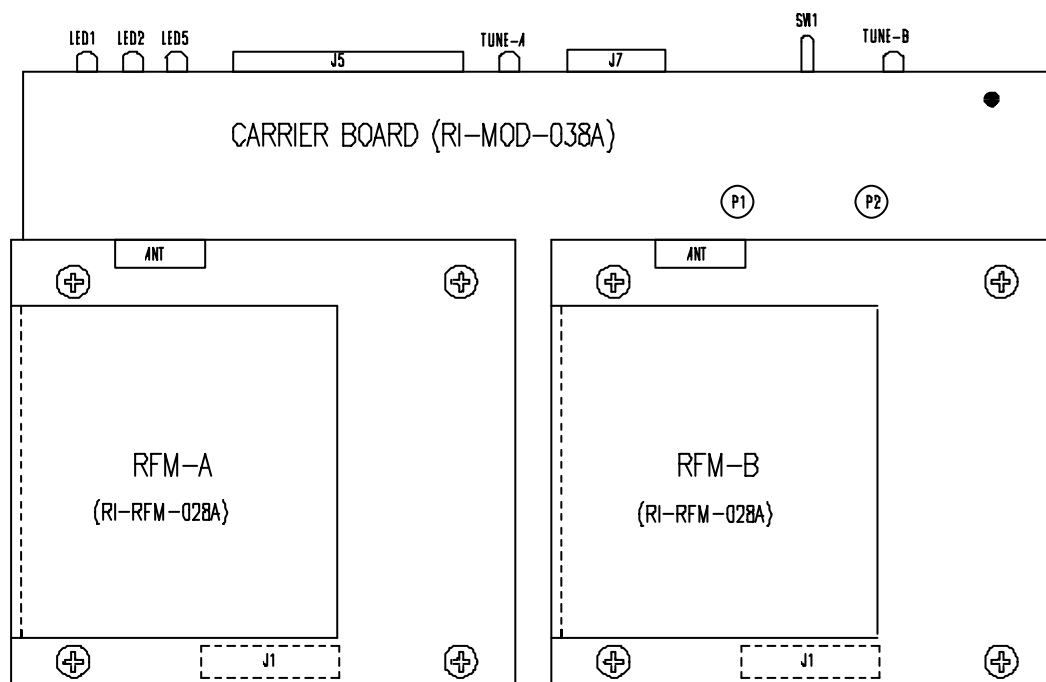
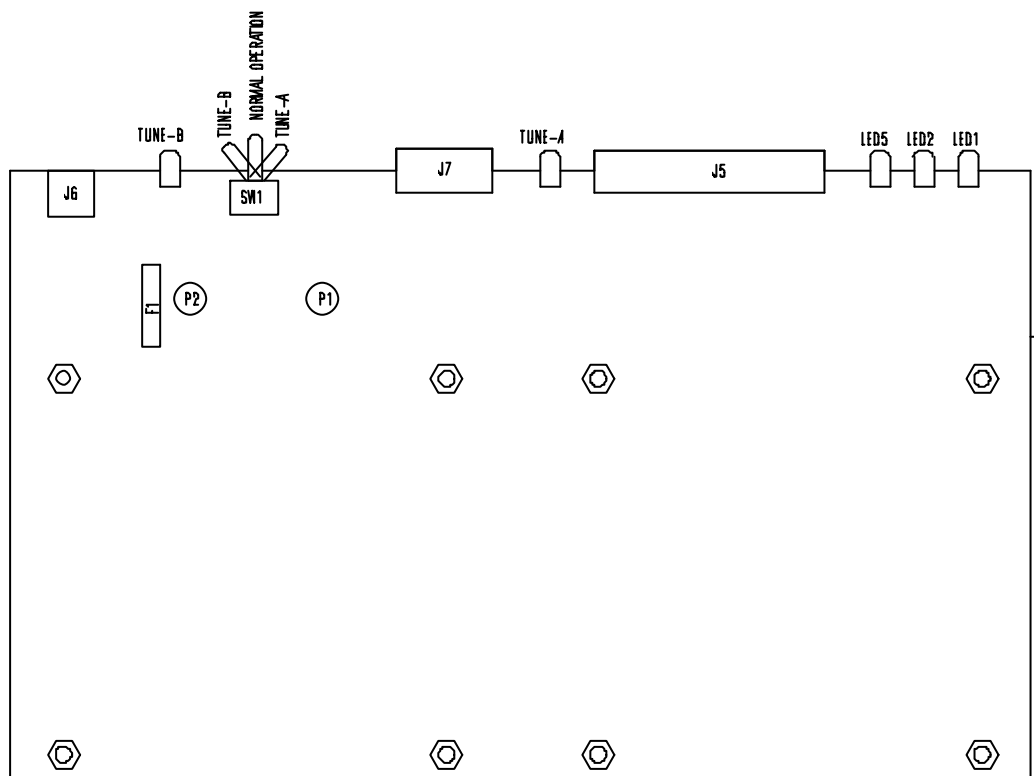

Figure 2: Top View
Figure 3: Bottom View
- J6 Power connector for $V_{cc} = 5\text{ V}$ and $V_{in} = 17.5\text{ to }38\text{ V dc}$ and GND (refer to figure 3).
The bottom view of the TX-MOD is shown in figure 3. The RFMs are connected to the Carrier Board via 16-pin module connectors J1 (as can be seen in figure 2 there are two J1s - one for each RFM). Each J1 connector carries the supply voltage lines, the data, and the control lines for its own RFM. The pin functions of these connectors is listed in table 1.